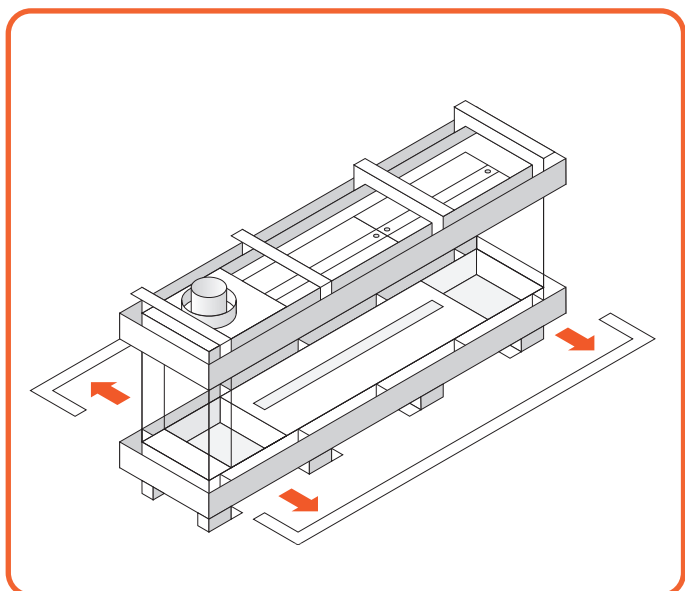

Figure 11.15 | Remove trims
- The Summum 140 4s has two decorative frames around the glass. These are held by magnetic snappers, (Figure 11.15) and can easily be pushed off the casing.